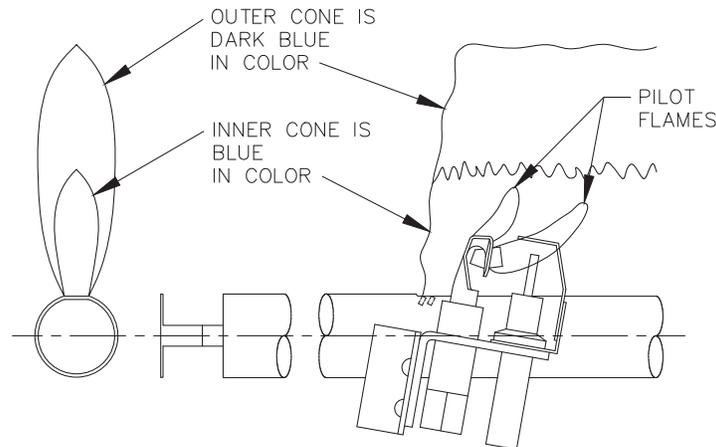

Figure 6: Intermittent Ignition Pilot Configuration and Flames
4. Check pilot flame. See Figure 6. The pilot flame should be medium blue covering approximately 3/8" to 1/2" of the thermocouple. If the flame is yellow and lazy, follow instructions TO TURN OFF GAS TO APPLIANCE (see Figures 3-5), and contact a qualified service agency.
5. Check main burner flames. See Figure 6. The flames should have clearly defined inner cones approximately 1-1/2" high and should have a very sharp blue color characteristic. If the flame is yellow and lazy, follow instructions TO TURN OFF GAS TO APPLIANCE (see Figures 3-5), and contact a qualified service agency.